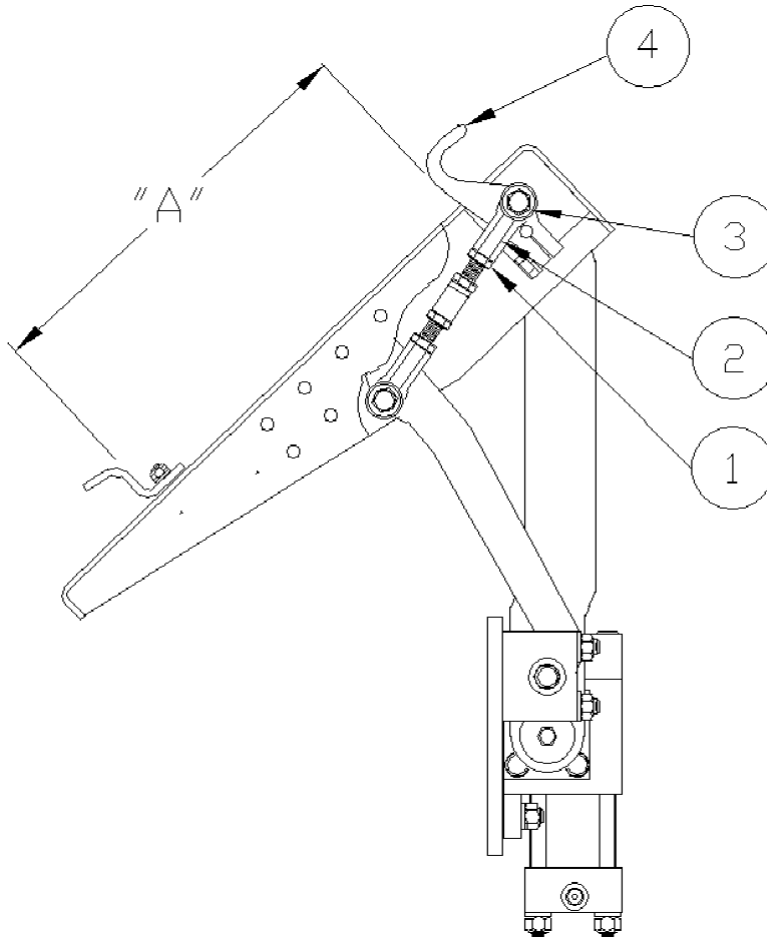

Figure B-3
Check the distance (A) (Figure B-3) between the saddle and lower hooks when the lifter faceplate is in the **FULL DUMP** position. Maintain this dimension at approximately **14 1/4"** for the proper "locking" of the cart to the lifter. To adjust the setting, loosen the jam nuts (1) on the spherical rod ends (2). Remove the bolts (3) that hold the rod ends to the lower hooks (4). Screw the rod ends in or out as required to obtain the correct dimension at (A). Replace the bolts (3) and tighten the jam nuts (1).
The distance in Figure B-3 is an arbitrary figure based on information furnished by cart manufacturers. It is the responsibility of the owner / operator of this equipment to adjust these dimensions to be compatible with his specific application.